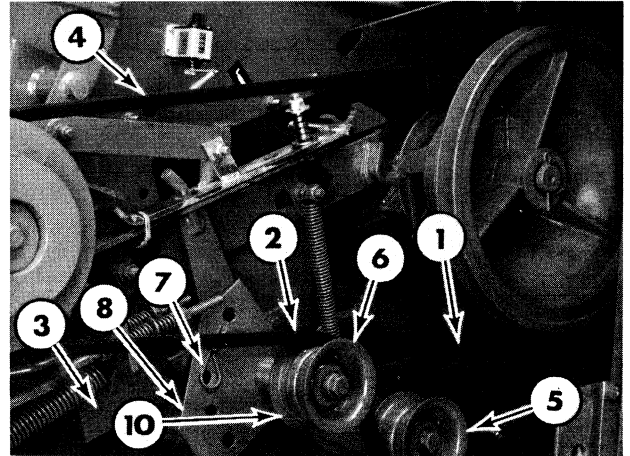

Figure 12-57
8. Remove the bracket and shaft, 2, Figure 12-57, with the manual trip lever, 1, installed by removing the two cap screws and washers plus the spacers between the bracket and mounting plate. Lower the assembly to remove the trip lever pin from the trip slide. There may be washers between the mounting plate and frame that may drop when the pivot shaft and bracket is removed.
9. Install the drive belt, 4, Figure 12-57.